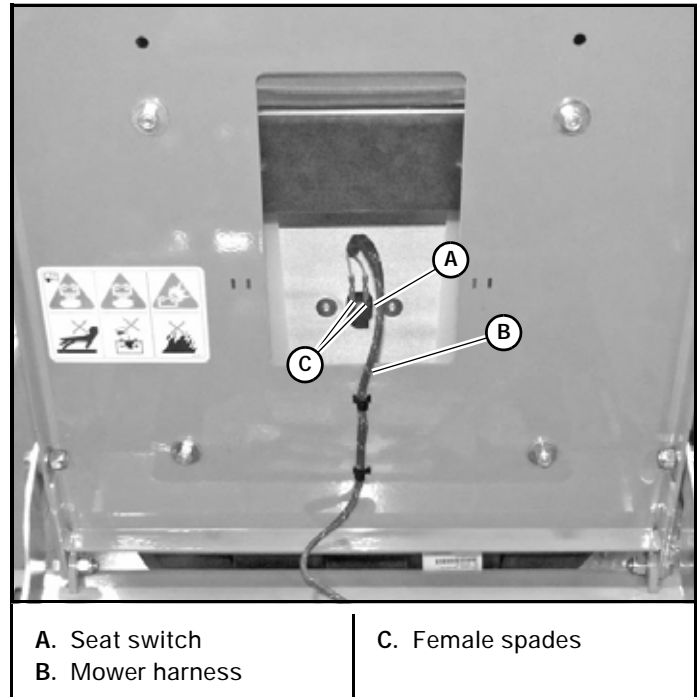

Figure 4-1
3. Raise the seat platform and disconnect the mower harness from the seat switch. Bypass the seat switch by connecting the two mower harness female spades together. Figure 4-1
be completed so that the safety circuit is functioning properly. Figure 4-1